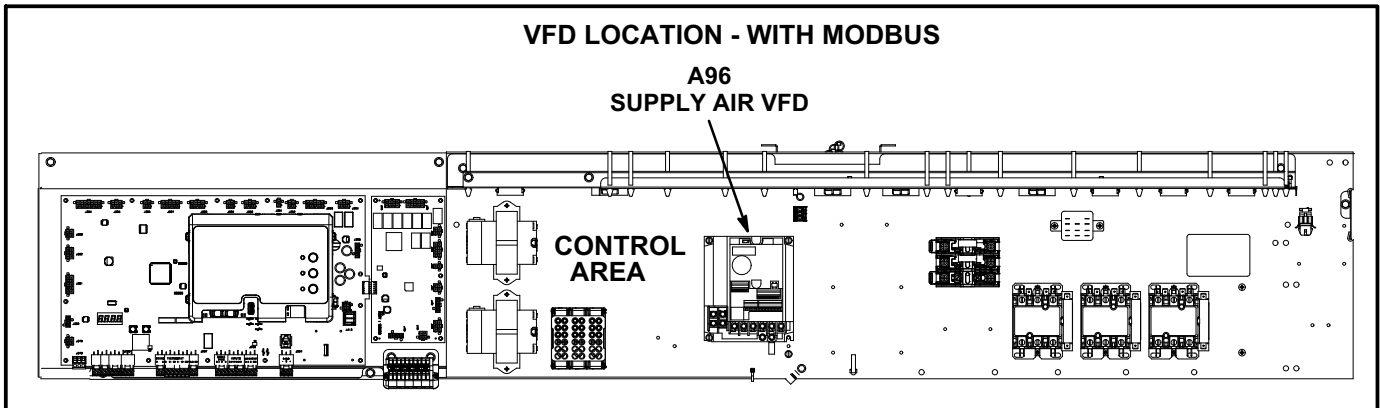

FIGURE 11
- 1- Disconnect all power to unit and **WAIT AT LEAST 10 MINUTES** before opening the VFD cover. See figure 11 for location.